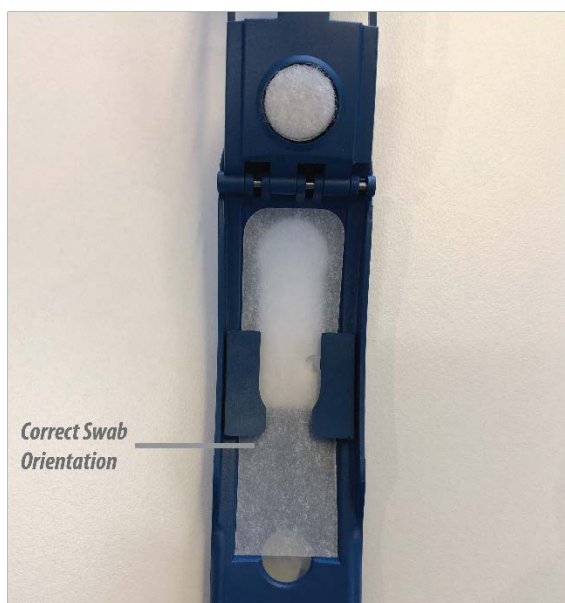

Figure 32: Correct Swab Orientation (Sampling Wand)
2. Insert a blank sample Swab into the sampling wand following the orientation illustrated on the sampling wand illustrated in Figure 32: Correct Swab Orientation (Sampling Wand).